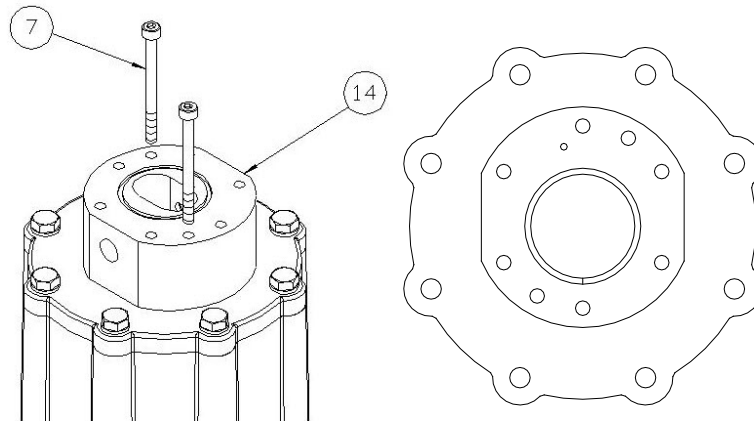

Figure 12 – Non-metallic
8. Secure the center housing using two bolts in holes as shown in Figure 12. Tighten these bolts to the torque specified in **Section 29.2**. Always tighten fasteners in a progressive “crisscross” pattern.